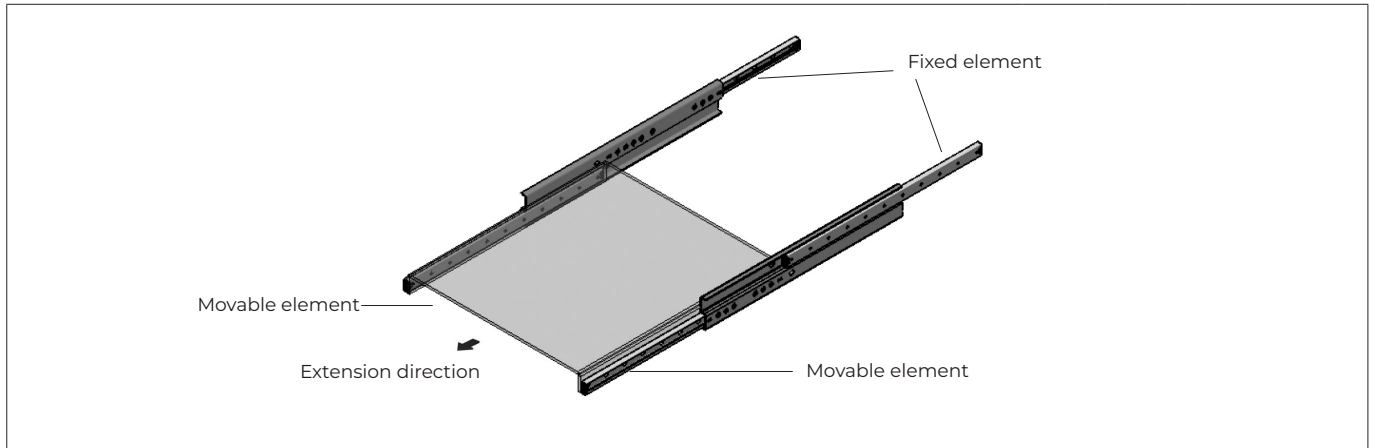

Fig.22
- When installing, make sure that the load is placed on the movable element (the lower rail) (see Fig.22). The opposite assembly negatively affects the function.